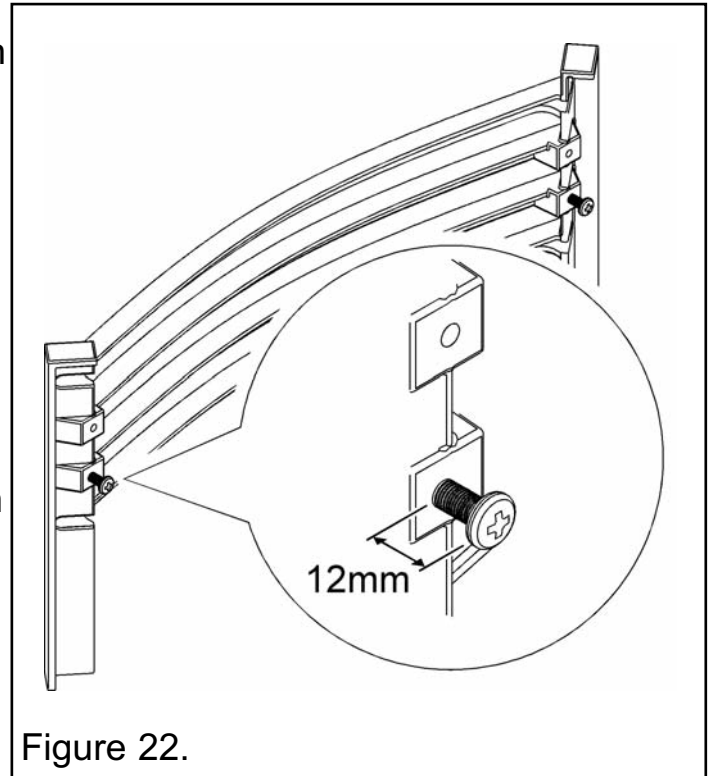

Figure 22.
2. The rear of the firefront may be fitted with hanging screws or they may be supplied in the firefront packaging. Where they are not already fitted insert them into the lower holes on both sides of the firefront. The distance between the firefront and the underside of the screw heads should be approximately 12mm. The screws can be adjusted to obtain the required fit (See figure 22).